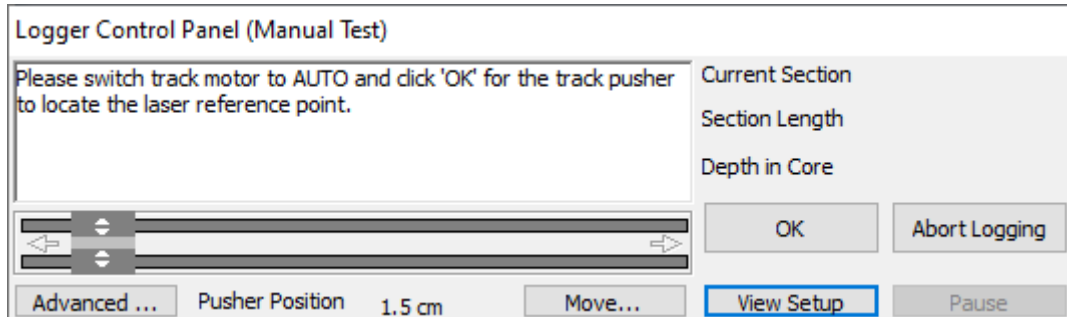

Figure 4.10: Logger Control Panel in MSCL-S software
- The core pusher will now locate the laser reference point as seen in Figure 4.10. Ensure the RH track is clear and click [OK] when ready.